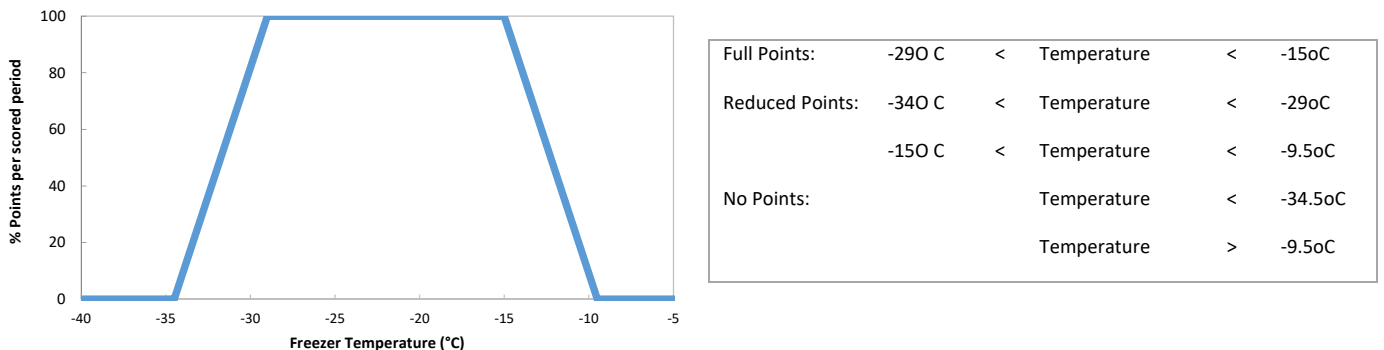

Figure 14: Freezer sub contest point's distribution
- b) Reduced points are earned if the time-averaged interior temperature is between -34.5°C and -29.0°C or between -15.0°C and -9.50°C. Reduced points will be scaled linearly, as shown in Figure 14.